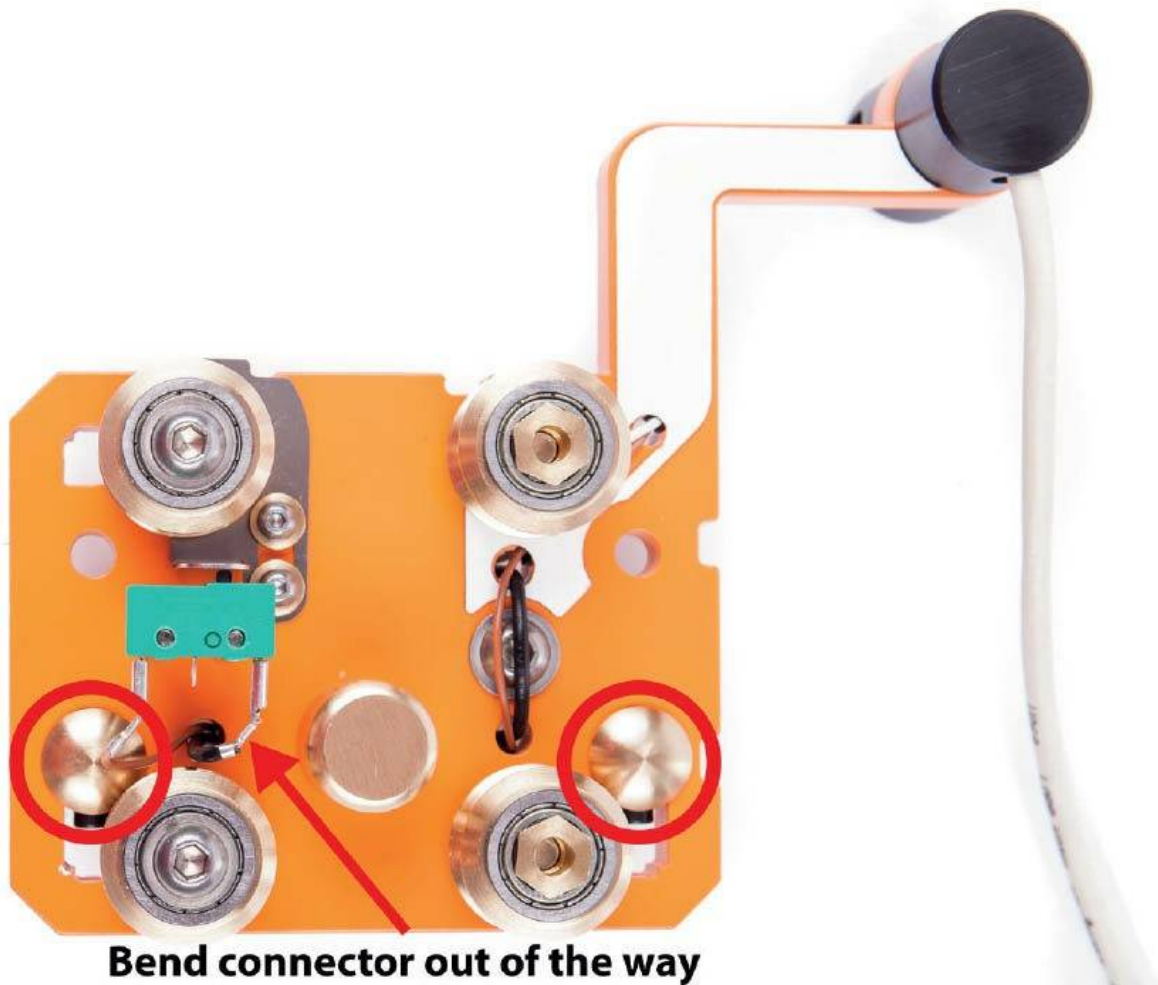

Fig. 2.16 The next two roller holders
The other four rollers are mounted the same way on the other side of the X-Z connector, with two mounted freely and the other two tightened firmly. If the lower right-hand roller touches the end switch cable, carefully bend the flat connector out of the way, as shown in figure 2.16.
24. Place the last two roller holders in the holes indicated in figure 2.16 and gently tighten the M3 bolts.